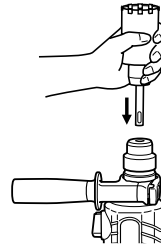

Fig. 16
- (2) Mount the core bit shank to the rotary hammer. (Fig. 16)